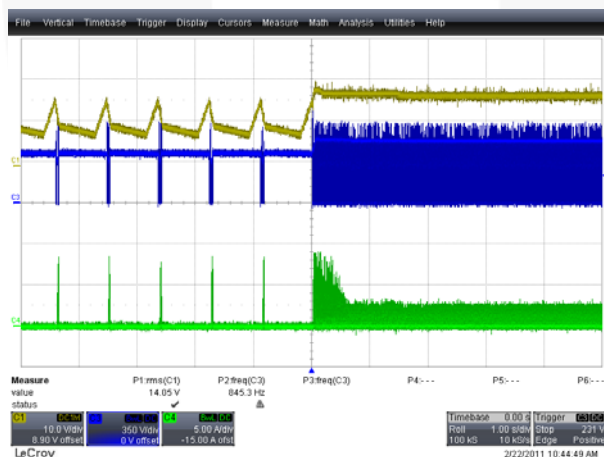
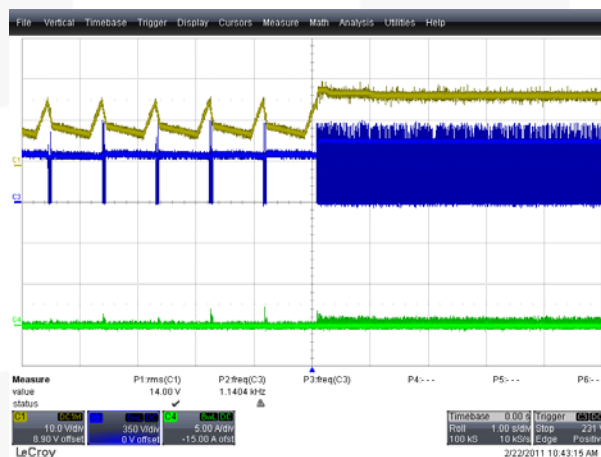

Figure 45. 90 V_{AC} / 60 Hz, CH1 (Yellow): V_{CC(QR)}, CH3 (Blue): V_{DS(QR)}, CH4 (Green): I_{DS(QR)}
Figure 46. 277 V_{AC} / 60 Hz, CH1 (Yellow): V_{CC(QR)}, CH3 (Blue): V_{DS(QR)}, CH4 (Green): I_{DS(QR)}
Figure 45 and Figure 46 show the V_{DS} and I_{DS} waveforms of the MOSFET (QR) when short circuits at output load were removed.